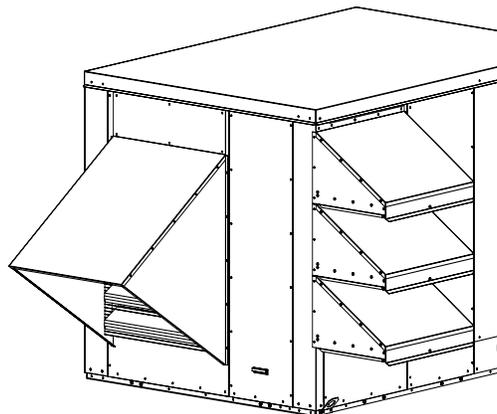

Figure 10. Installed Inlet Air Hoods
- The installed hoods attached to the cabinet corner post are shown in Figure 10.